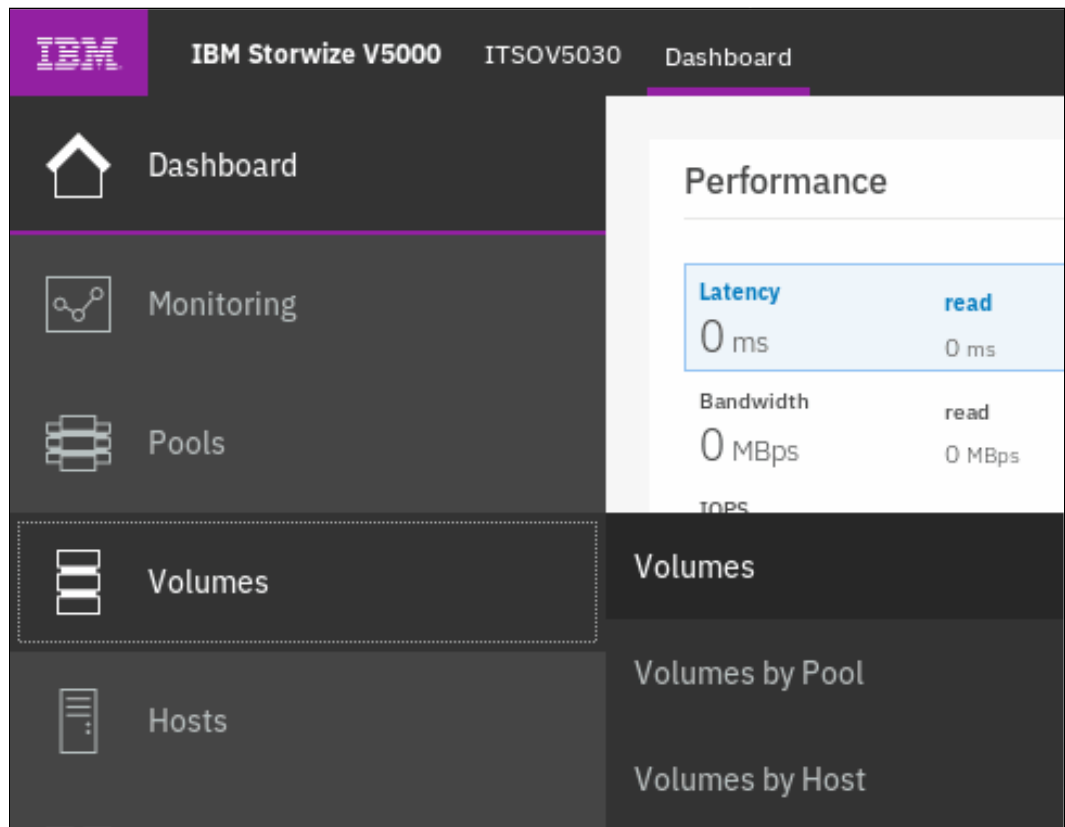

Figure 6-7 Volumes
1. Click the **Volumes** on the main window, as shown in Figure 6-7.